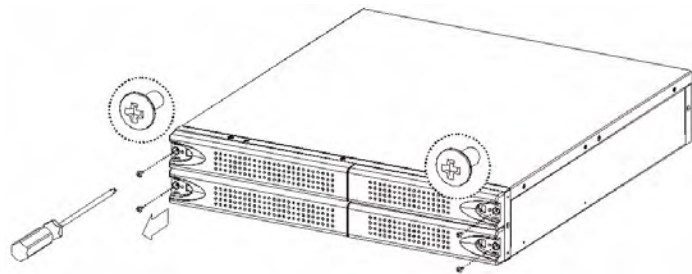

FIG. 3 Remove the screws that secure the Battery Compartment Cover
2. Remove the screws beneath the Release tabs (FIG. 3).